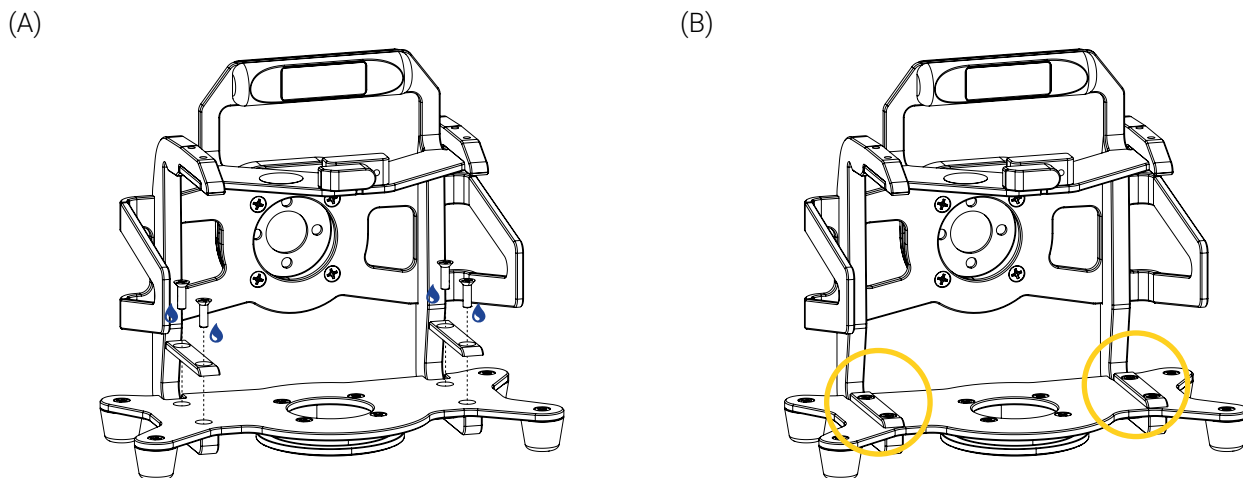

Figure 26: Installing the spacers
3. Align the two (2) spacers in the screw holes of the base plate, then tighten the four (4) 10-32 X 3/4 in. L flat head screws coated with medium strength thread lock adhesive (🔩) in alternation, using a Phillips-head screwdriver #2 (Figure 26).